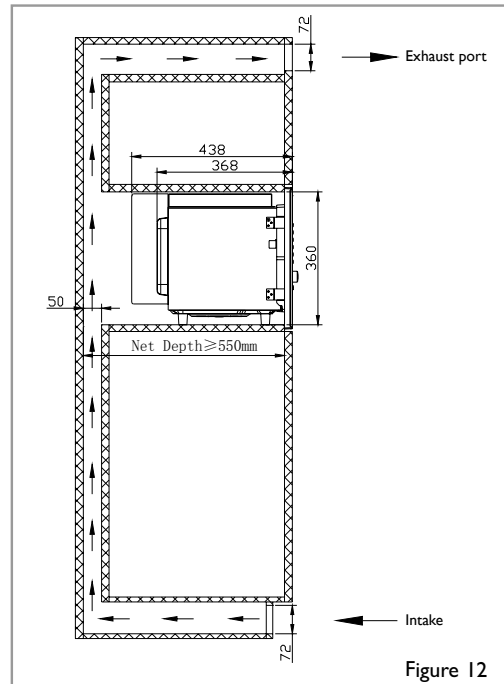

Figure 12
c) Cabinet airflow chart. As shown in figure 12.